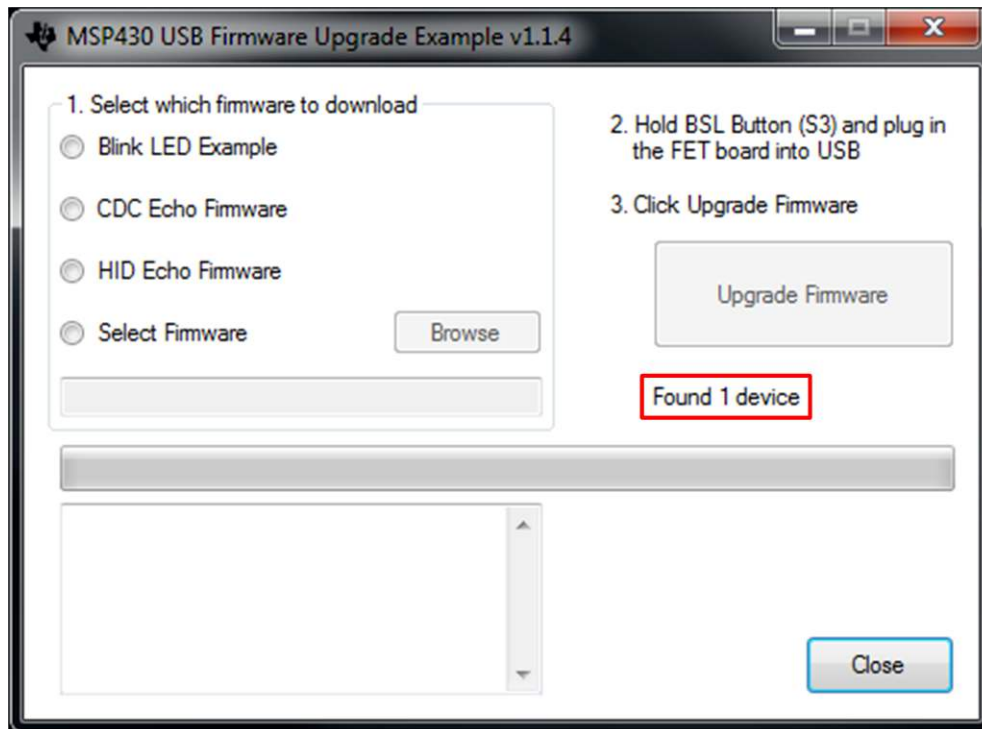

Figure 5-3. USB Firmware Upgrade Window
4. Go to the “SETUP” tab and select “Update Firmware”. Select OK to the message “Update MSP430 Firmware?” Accept the license and the message “Found 1 device” should appear as in Figure 5-3.